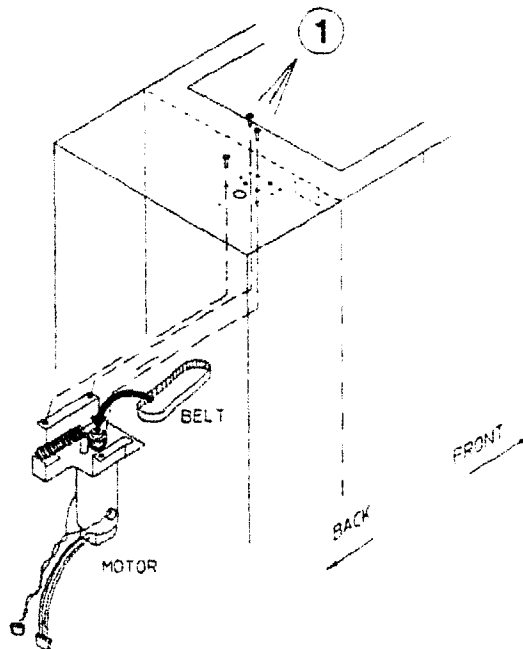

Figure 8-68. Removing the Carriage Motor
Refer to Figure 8-68.
1. Loosen the screws holding the Carriage Motor (Figure 8-68 (1)).